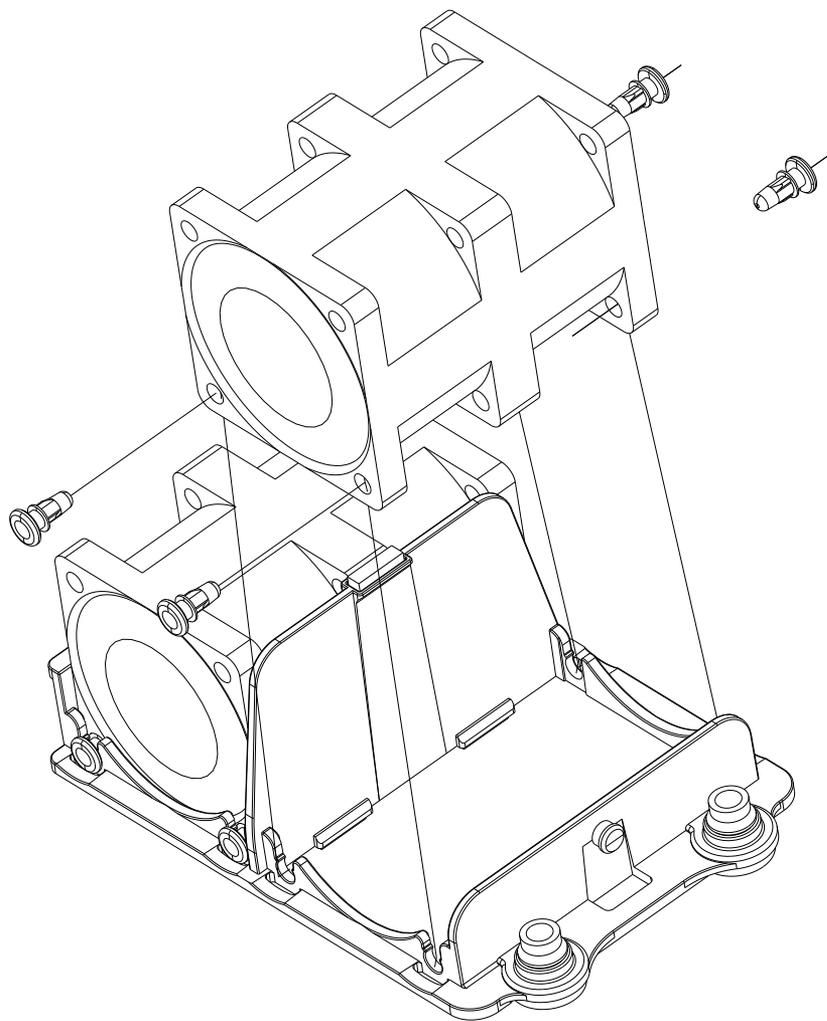

Figure 6-8 Individual Fan Remove/Replace Example
6. Place the new fan into the vacant space in the fan tray, while making sure the arrows on the top of the fan (indicating air direction) point in the same direction as the arrows on the other fans in the same fan tray. See Figure 6-8 on page 54 for a fan assembly example.